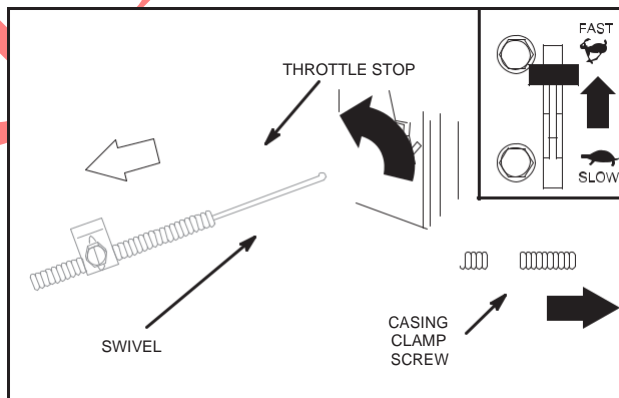

Fig. 4 – Control Wire Adjustment
3. Move control casing and wire in direction shown by arrow until governor control swivel is at end of travel, Fig. 4.